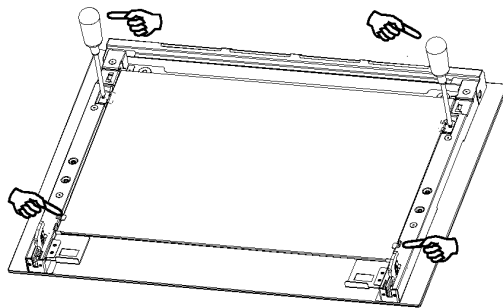

Figure 11
3. To put the middle glass on the corresponding holders accurately, and tighten the screws, as shown in figure 11